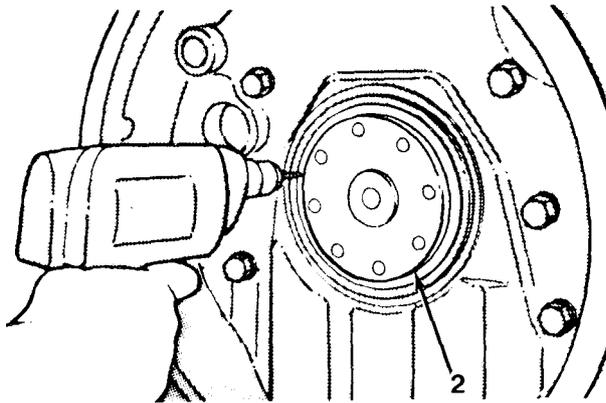

Figure 6-4
2. Drill two holes 180 degrees apart to relieve tension on rear seal (2, Figure 6-4).